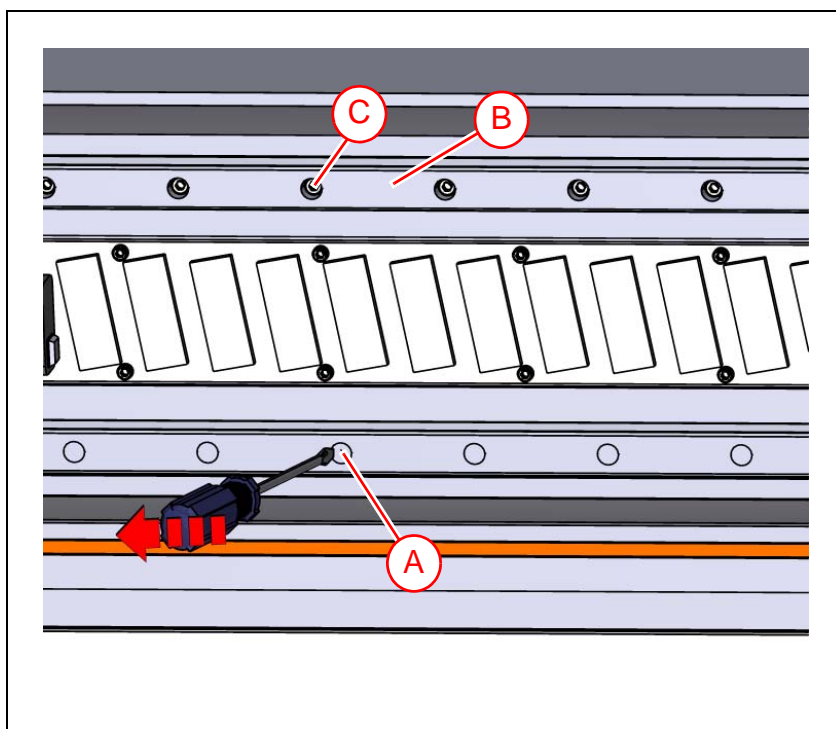

Figure 5-23. Remove protection caps.
8. All screws ('C' in Figure 5-23) in the rails ('B') are covered with plastic protection caps ('A').